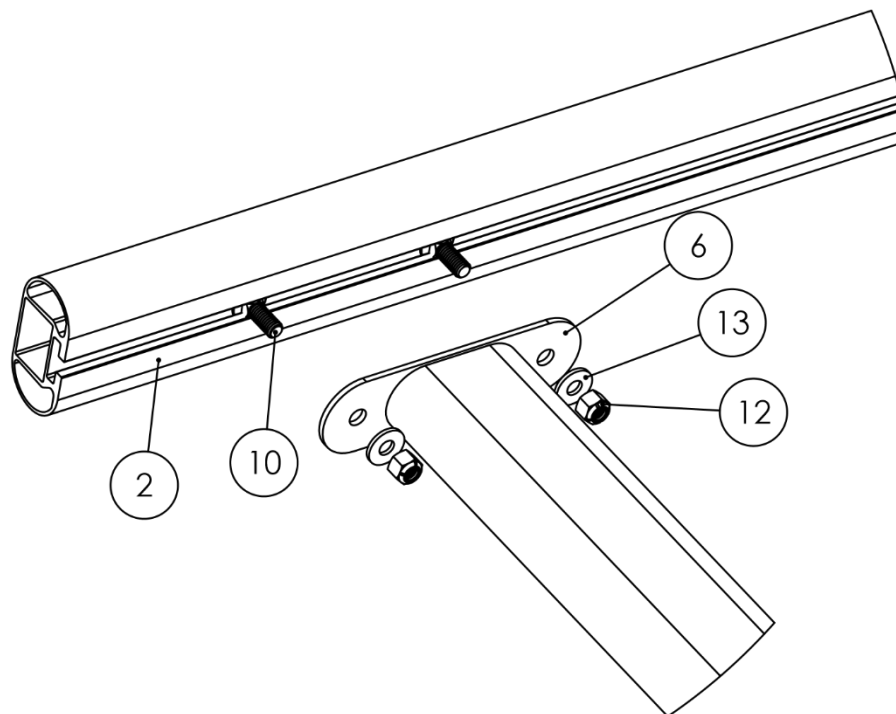

Figure 11
6. **Attach the Side Rails to the Crossbars.** Examine the Side Rails (Item No. 2) and notice a slot (channel) running the length of the inner side. Lay the Side Rails on the ground and slide (2) 1" Carriage Bolts (Item No. 10) into each end – a total of 4 times per Side Rail. Once you have placed the Carriage Bolts at a position relative to the location of the Legs (Item No. 4), hold up a Side Rail and place it against the end of a Crossbar (Item No. 1) in such a way that allows you to complete the attachment as shown in Figure 11. Push the Carriage Bolts through the holes found on the Side Rail Connector (Item No. 6) and fasten each with a Lock Nut (Item No. 12) and Washer (Item No. 13). Complete the process at each Crossbar and Side Rail joint.